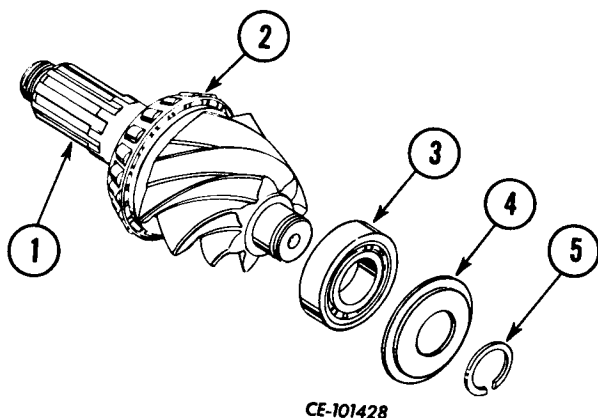

Figure 6-19
Using a suitable adapter, press the inner thrust bearing (2, Fig. 6-19) from the pinion shaft (1).
Press pilot bearing (1) on pinion shaft. Install spacer (4, Fig. 6-19) and retaining snap ring (5). Be sure snap ring bottoms in groove in pinion shaft.